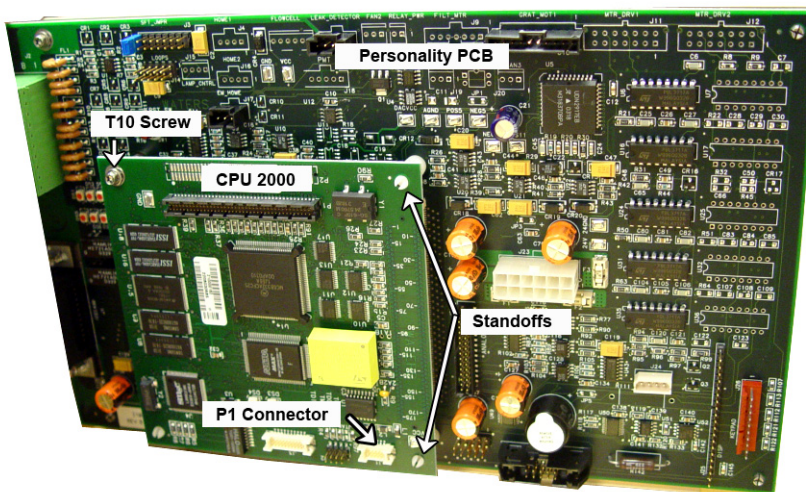

Figure 1 - CPU2000/Personality PCB
1. Remove the T10 screw at the upper-left corner of the CPU 2000 (Figure 1).
2. Pop off the three stand-offs (Figure 1).
NOTE: *Orient the board so that the P1 connector is on top (Figure 1).*